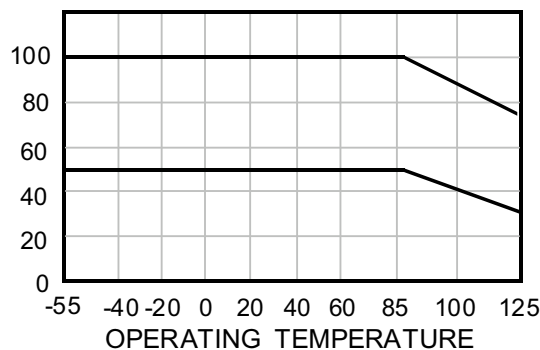

Fig. 3
- ▶ When the tantalum capacitors are to be used at an ambient temperature of higher than 85°C, the recommended operating range shown in Fig. 3 should not be exceeded.